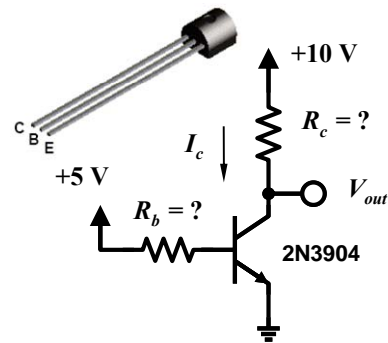

Figure 3-19 – Simple BJT circuit.
Like the FETs, the variation of device parameters with temperature, manufacturer, etc. make the four-resistor bias network a better choice than some simpler techniques. But for simple switching functions, simple bias networks are often used. Consider the circuit in Figure 3-19. The resistor  $R_b$  determines the base current according to
- For the circuit shown in Figure 3-19, the design goal is  $I_c = 20\text{ mA}$  and  $V_{out} = 6\text{V}$ . Find the base-resistance and collector resistance to make this happen (assume  $\beta = 200$ ). Then build the circuit and verify. How close did you come?